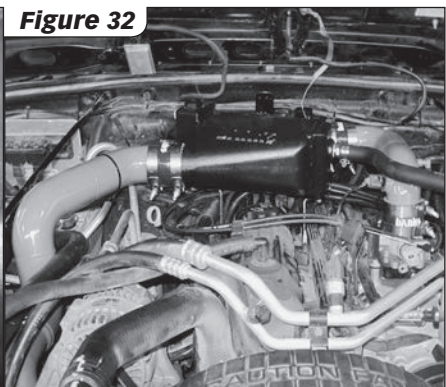

Figure 32
3. Install Techni-Cooler inlet boost tube using silicone hose (P/N 94262) and clamps (P/N 92855). Use throttle body silicone hose and clamp from turbo kit. **See Figure 32**